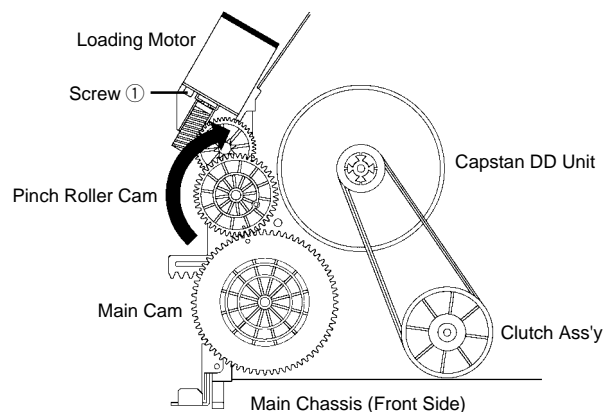

Fig. 2
1. Remove the Top Cabinet, Front Cabinet and DVD Block. (Refer to item 1 of the **DISASSEMBLY INSTRUCTIONS.**)
2. Remove the screw ① of the Deck Chassis and remove the Loading Motor. (Refer to Fig. 2)